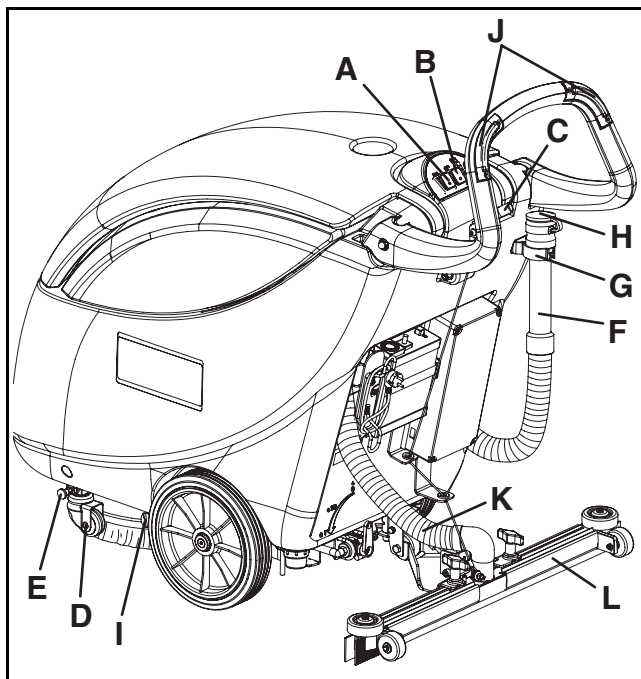

Figure 21
1. Stop the machine by turning the brush/pad rotation switch and the water vacuuming switch (A and B, Fig. 21) to the "0" position.
2. Lift the squeegee by means of the lever (C, Fig. 21).
4. Insert the positioning pin (E), lift the brush/pad and activate the transport/parking device (D, Fig. 21) by means of the handlebar.
5. Disconnect the recovery tank drain hose (F, Fig. 21) from the bracket (G); open the cover (H), then lower the hose (F) and empty the recovery tank. Then, rinse the tank with clean water.
7. Empty the solution tank by opening the drain valve (I, Fig. 21). Then, rinse the tank with clean water.
- Turn the brush/pad rotation switch (A, Fig. 21) to the "I" position.
- Lift the brush/pad-holder and press one or both the switches (J, Fig. 21) for a few seconds, then release them: this causes the brush/pad-holder to be disengaged.